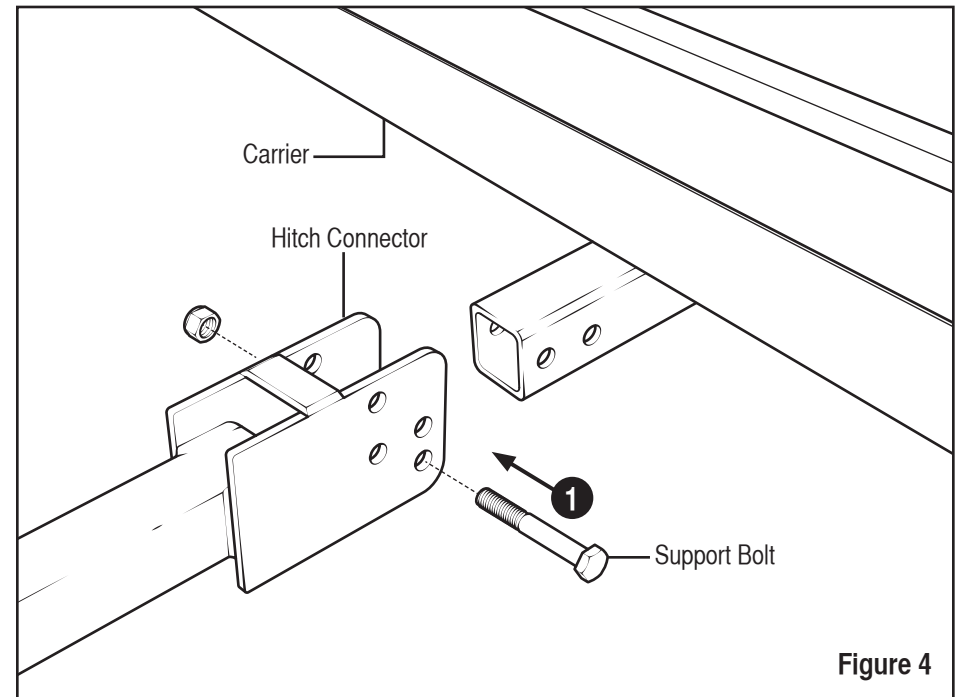

Figure 4
1. Insert the Support Bolt through the holes on the Hitch Connector. Attach the nut and finger tighten (**Figure 4**).